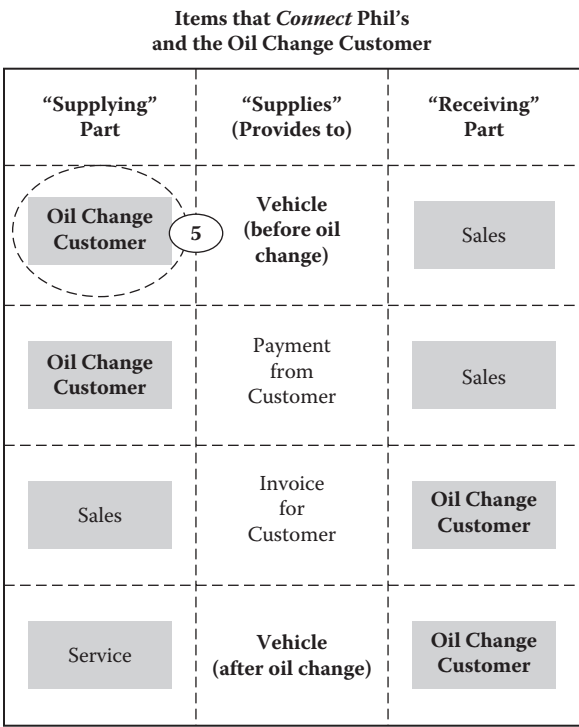

Figure A.4 Phil's Quick Lube customer “touch points” for Order to Delivery oil change.
5. Define the **external** supplier–customer relationships *first*, starting with the **external customer**. This will give you the customer “touch points” (Figure A.4).